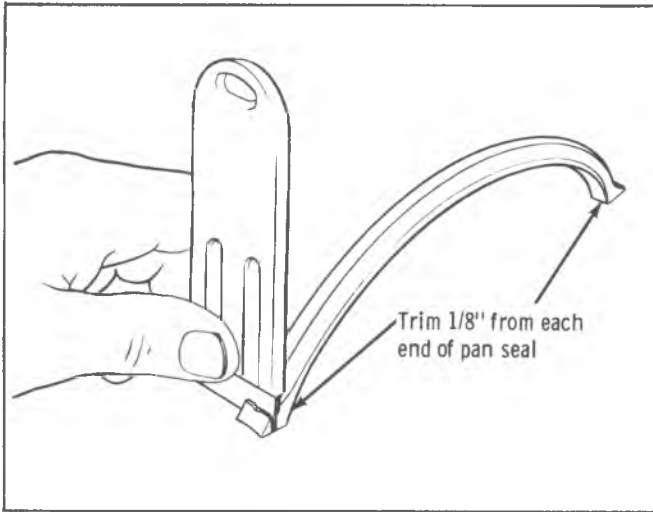

Fig. 6A6-80--Trimming Pan Seal
1. Grind a chamfer on one end of each dowel pin as shown in Fig. 6A6-79.
4. Trim about 1/8" (3mm) from each end of new front pan seal, using a sharp tool as shown in Fig. 6A6-80.